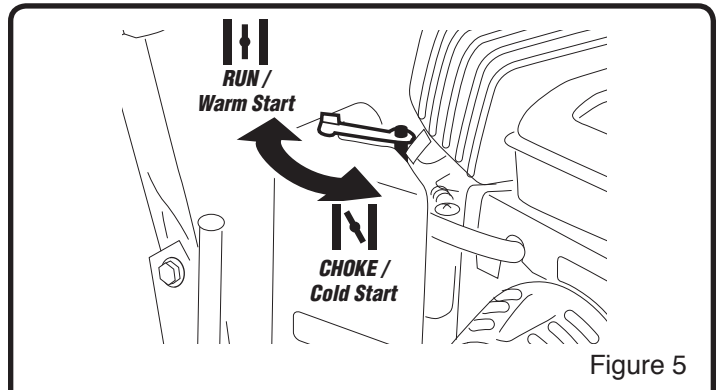

Figure 5
3. Rotate Choke to the Choke Position. (See Figure 5)
7. After the engine starts, wait 2-5 seconds and rotate the choke back to the RUN position. (See Figure 5)